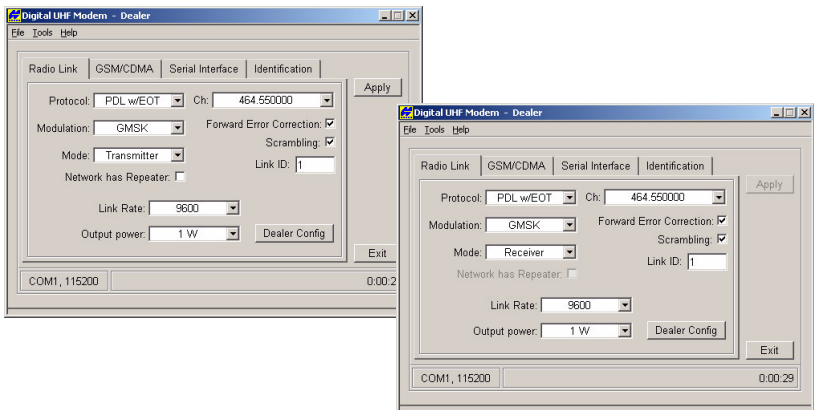

Figure 3-8. Apply Radio Link and Baud Rate Parameters
3. On the *Radio Link* tab, set the following parameters (Table 3-5) for the base station’s and rover’s radio modem, and click **Apply** (Figure 3-8 on page 3-15).